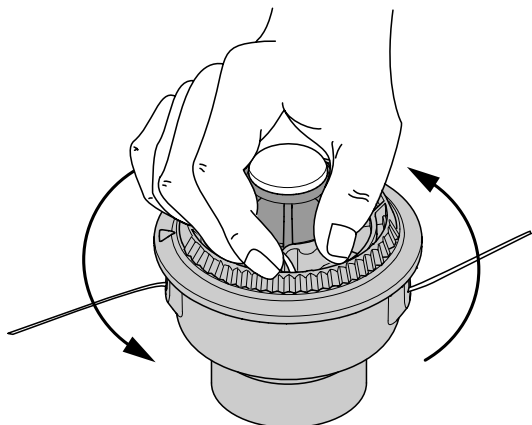

Fig. 50
8. Hold the outer spool. Wind the inner reel counterclockwise until approximately four (4) inches (102 mm) of line remain (Fig. 50).